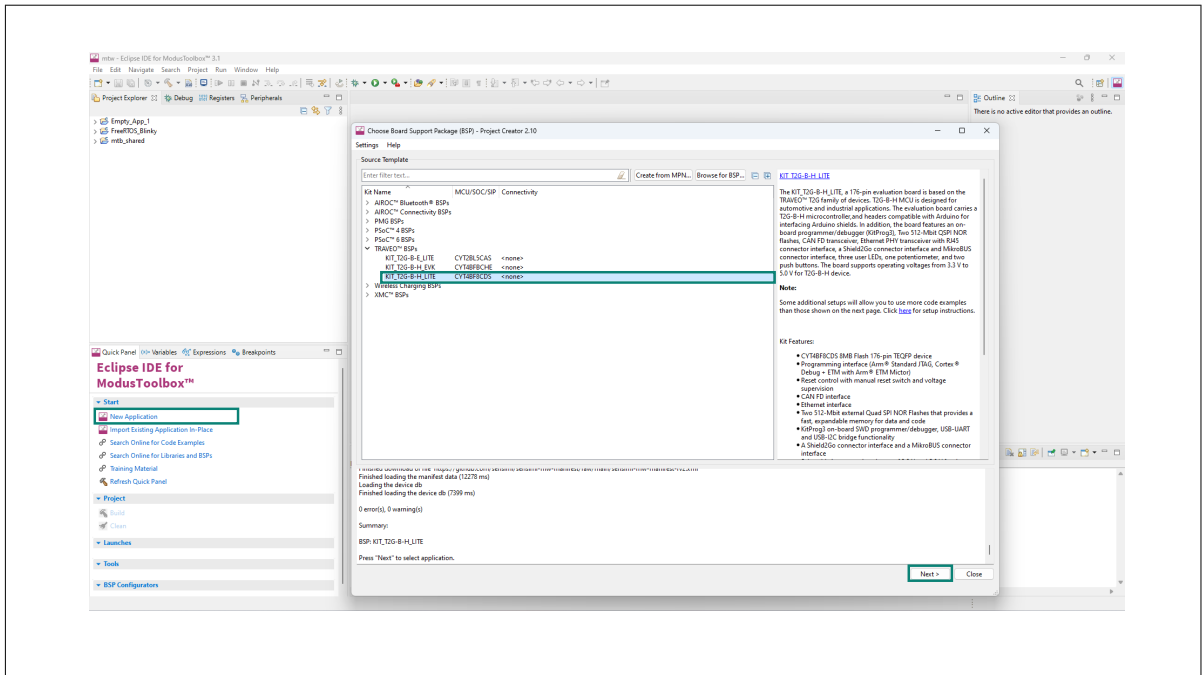

Figure 10 Selecting the TRAVEO™ T2G B-H Lite kit BSP
4. Once the loading is complete, click on the “TRAVEO™ BSPs” and select the “KIT_T2G-B-H_LITE” in the kit name, and then press “next” button (as shown in Figure 10)